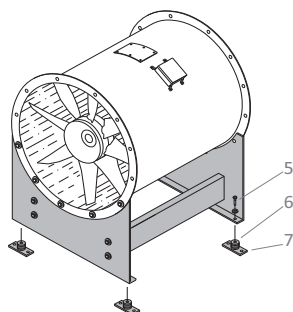

Figure 2. ACN with support frame and anti-vibration mountings
Secure anti-vibration mountings (fig. 2, item 06) in the support frame by means of bolts (item 05).